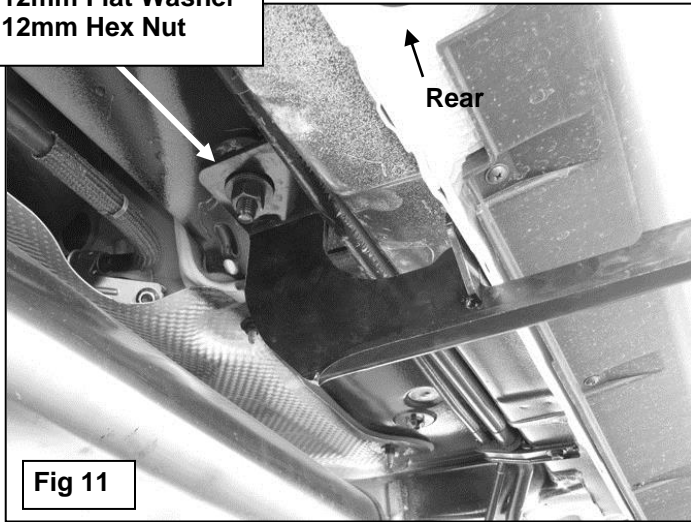
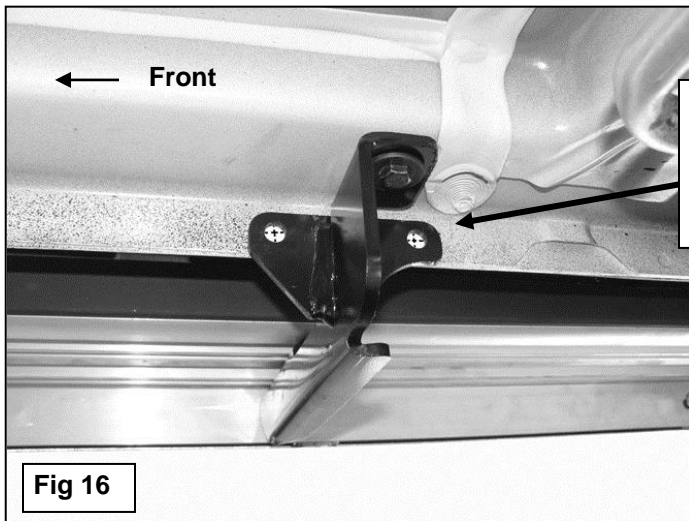

Fig 11
Fig 16
6. Continue along the side of the vehicle and locate the rubber plug in the bottom of the floor panel directly in front of the rear suspension mount, **(Figure 8)**. Remove the plug. Partially thread (1) 12mm Plastic Retainer onto (1) 12mm x 40mm Short Low Profile Bolt Plate. Repeat **Step 1** to insert the Bolt Plate with Retainer into the hole, **(Figures 9A & 9B)**. Select the passenger rear Bracket. Slide (1) Large Spacer Washer over the Bolt Plate and Retainer, **(Figure 10A & 10B)**, then attach the passenger Rear Bracket to the Bolt Plate with (1) 12mm Flat Washer, (1) 12mm Lock Washer and (1) 12mm Hex Nut, **(Figure 11)**.
12. Mark the front, center and rear Support Bracket slot locations onto the back of the pinch weld, **(Figure 16)**. Temporarily remove the Running Board and Brackets. Remove the screws attaching the plastic rocker cover to the bottom of the body, **(Figure 11)**.